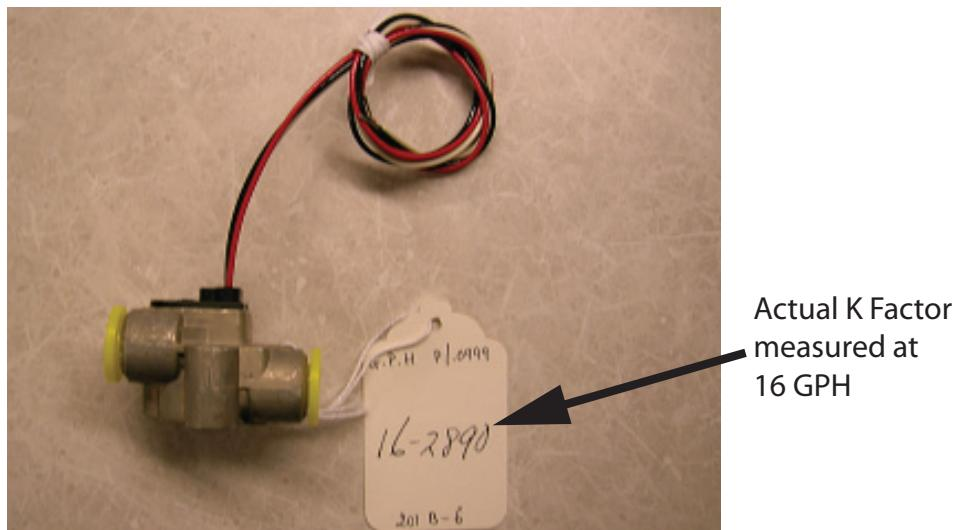

Figure 14-18 Example Floscan Fuel Flow Sensor
The G3X default K factor for the 201B-6 is set to 29,500 pulses/gallon. Some Floscan fuel flow sensors come with a tag that lists the K factor number measured during unit calibration (see Figure 14-18).
If the Floscan tag shown in Figure 14-18 is lost, the serial number of the Floscan sensor can be supplied to Floscan to obtain the calibrated K factor value.
The tag shown in Figure 14-18 lists a K Factor of 16-2890. The first two digits (16) represent Gallons Per Hour, while the last four digits (2890) represent the number of electrical pulses (divided by 10) output by the sensor per gallon of fuel flow. The numbers on the tag are used in determining the K-Factor to be entered as part of the Fuel Flow Calibration described in Section 18.3.3. To determine this number, a zero should be added to the four digit number on the tag. In the example above after adding the zero to 2890, the resulting K-Factor to be entered on the Fuel Flow Calibration would be 28900.